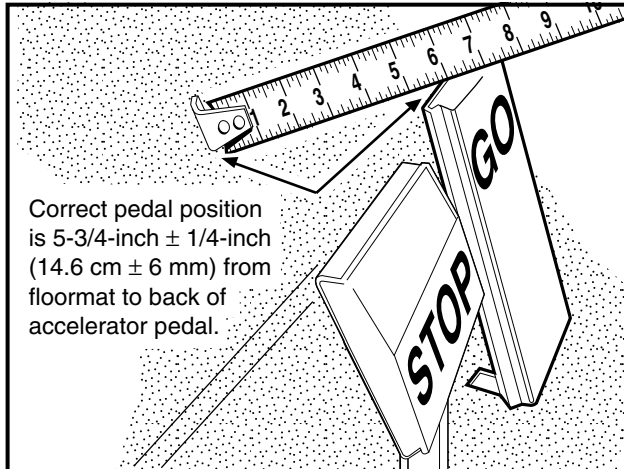
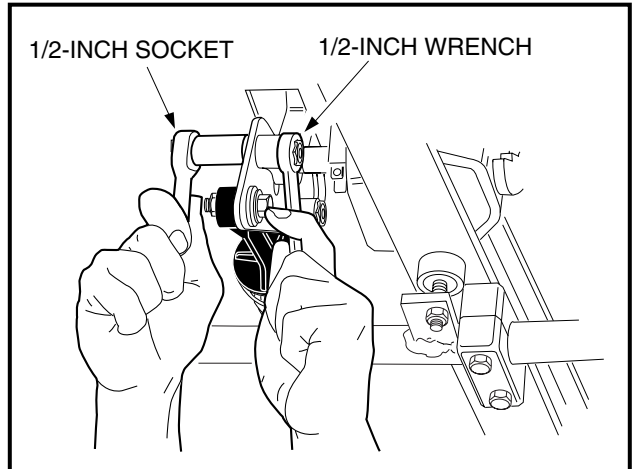
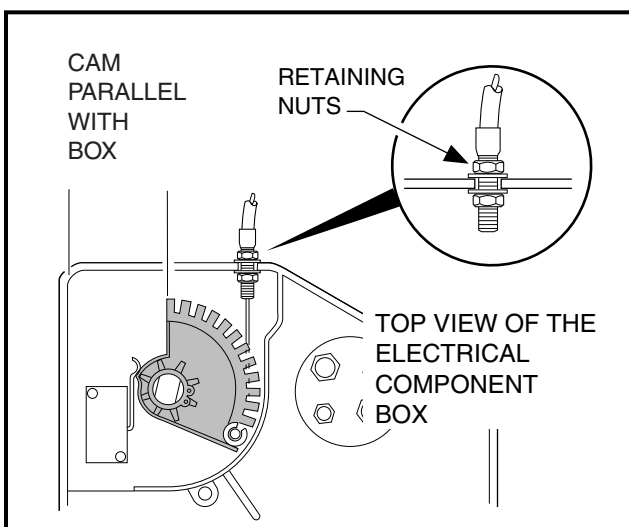
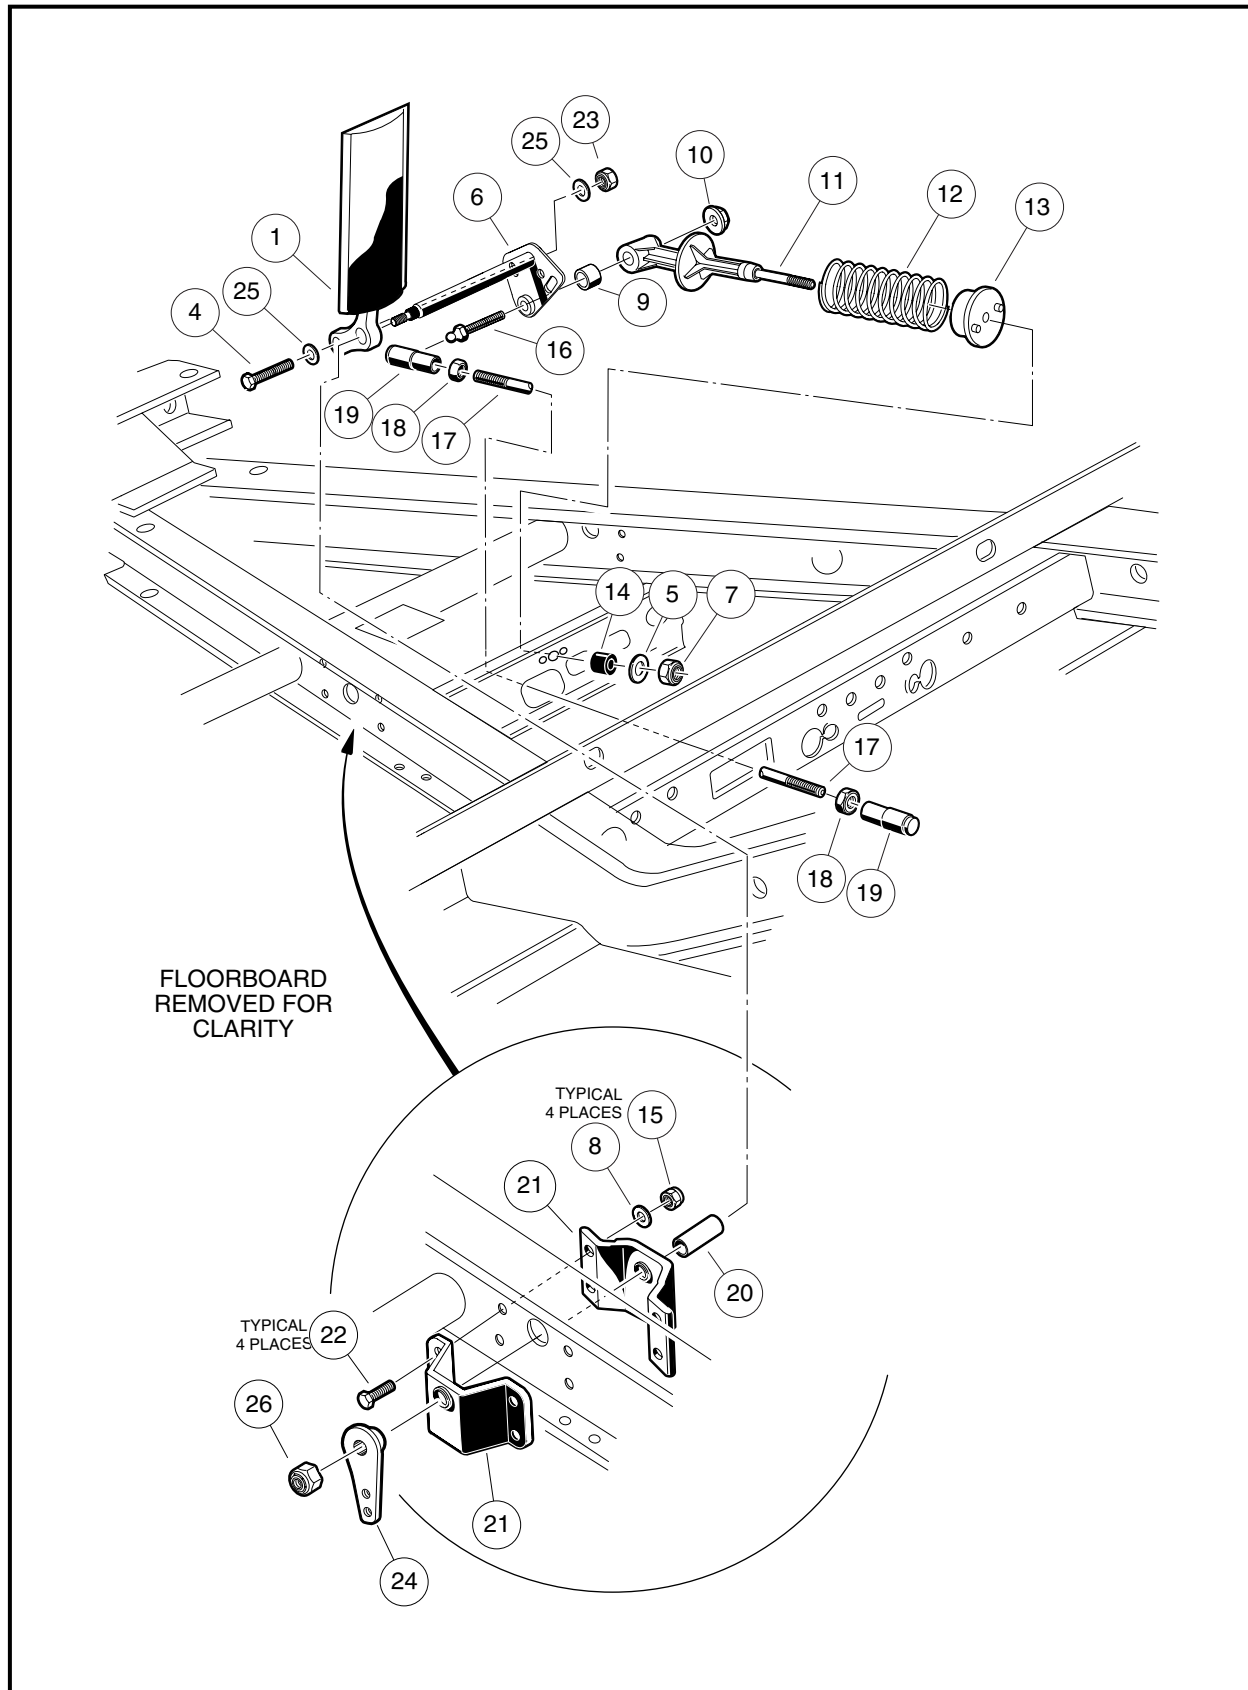

Figure 5-7 Accelerator Pedal Height
Figure 5-8 Accelerator Pedal Adjustment
Figure 5-10 Accelerator Cable and Electrical Box
Figure 5-11 Accelerator Pedal Assembly
4. Use a 9/16-inch socket and 9/16-inch wrench and remove the nut (23), two washers (25), and bolt (4) securing the accelerator pedal (1) to the pivot rod (6) (**Figure 5-11, Page 5-8**).
6. Remove the nut (10) and ball stud (16) from the accelerator pivot rod (6) and spring retainer (11) assembly.
7. Slide the spring retainer (11) off of the accelerator pivot rod boss.
8. Inspect the pivot support bearing (9), inside the spring retainer, for wear and replace if necessary.
9. Remove lock nut (26) from the accelerator pivot shaft.
10. Move the brake pedal slightly and then slide the spacer (24) toward end of accelerator pivot rod, releasing the splined fit between the two. Rotate the spacer (24) and remove from the pivot rod (6).
11. Loosen, but do not remove, the four bolts (22) and lock nuts (15).
12. Slide the pivot rod (6) from the accelerator pivot rod supports (21), nylon spacer (20), and accelerator (1). Remove both the pivot rod (6) and the accelerator pedal (1).
13. Inspect the accelerator pivot rod support bearings (21) and all parts for wear or damage and replace as necessary (**Figure 5-11, Page 5-8**).
1. If replaced, position the supports (21) on the vehicle frame and loosely install the four bolts (22), washers (8), and lock nuts (15) and finger tighten (**Figure 5-11, Page 5-8**).
2. With another person, position the accelerator (1) through the floorboard and slide the accelerator pivot rod (6) through the upper hole in the pedal, through the nylon spacer (20), and through the two pivot rod supports (21).
3. Tighten bolts (22) to 75 in-lb (8.5 N·m).
4. Install spacer (24), aligning the splined parts, and tighten the nylon lock nut (26) to 18 ft-lb (24.5 N·m).
5. Insert bolt (4) through a washer (25) and through the lower hole in the pedal, then through the adjacent slotted hole in the pivot rod (6). Attach the remaining washer (25) and nut (23). Finger tighten-nut. **See Accelerator Pedal Adjustment on page 5-5.**
6. Insert pivot support bearing (9) into spring retainer (11) and onto the boss of the pivot rod plate.
7. Install the ball stud bolt (16) through the pivot rod (6) and pivot support bearing (9). Secure these parts with nut (10) and tighten to 50 in-lb (5.5 N·m).
1. Measure the distance from the top of the accelerator pedal to the floorboard. If it is within the range of 5-3/4 inches  $\pm$  1/4-inch (14.6 cm  $\pm$  6 mm) (**Figure 5-7, Page 5-7**), adjusting the accelerator pedal is not necessary. Tighten the nylon locknut (23) to 26 ft-lb (35.3 N·m) (**Figure 5-11, Page 5-8**) and proceed to step 7. If adjustment is necessary, proceed to step 2.
4. Loosen the nut and bolt securing the accelerator pedal to the pivot plate (**Figure 5-8, Page 5-7**).
- 6.1. Adjust the distance from the floormat to the back of the accelerator pedal to be 5-3/4 inches  $\pm$  1/4-inch (14.6 cm  $\pm$  6mm) (**Figure 5-7, Page 5-7**). Tighten nut to 26 ft-lb (35.3 N·m) (**Figure 5-8, Page 5-7**).
- 7.1. Remove the electrical box screw and cover (**Figure 5-10, Page 5-7**). **See preceding WARNING.**
- 7.2. Loosen the jam nuts (18) and disconnect the accelerator rod (17) at the accelerator pedal (**Figure 5-11, Page 5-8**). Adjust the length of the rod so the indicated cam edge is parallel with the edge of the electrical component box (**Figure 5-10, Page 5-7**). **See following CAUTION.**
8. Connect the accelerator rod at the accelerator pedal (**Figure 5-11, Page 5-8**).
9. Before tightening jam nuts on accelerator rod, press pedal and make sure the carburetor throttle actuates when the cam moves approximately 8° to 12° (**Figure 5-10, Page 5-7**). **See following NOTE.**
- 9.1. Hold the ball joint at each end of the accelerator rod (17) with pliers and tighten the accelerator rod jam nuts (18) against each ball joint (**Figure 5-11, Page 5-8**).